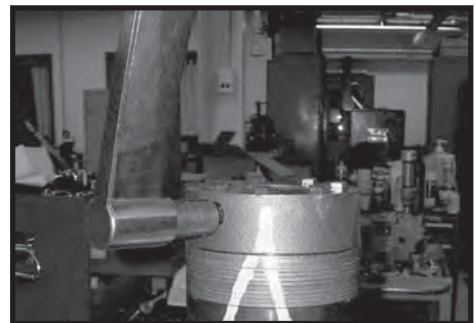

Figure 59
- 21. Torque the two shuttle valve plug assemblies (21) in end cover assembly to 9-12 ft. lbs. (12-16 N m) if cover is so equipped. SEE FIGURE 59.